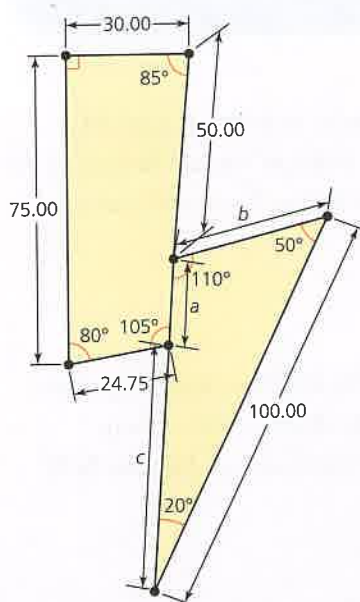

Figure 4.32 Lightning strike annotated first stage
Step 1: Annotate the drawing of the lightning strike to identify the dimensions that you need to find using trigonometry. Figure 4.32 shows how the lightning strike can be annotated.